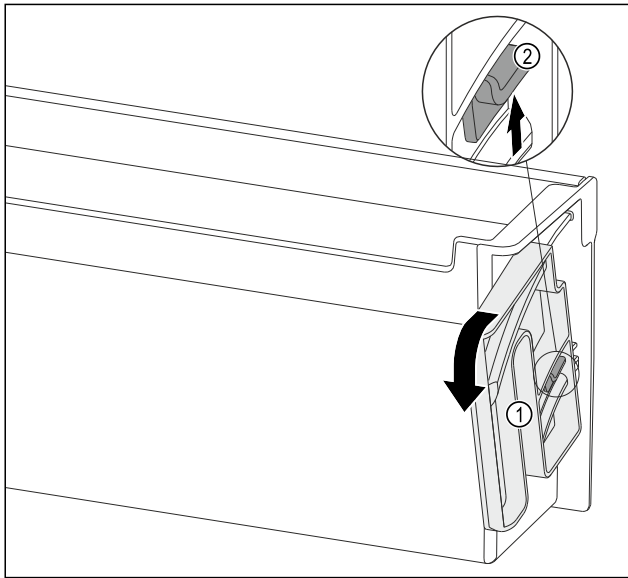

Fig. 92
- Turn the turning unit Fig. 92 (1) in the specified direction to the end stop.
- Press the tab Fig. 92 (2) up and remove the turning unit Fig. 92 (1).